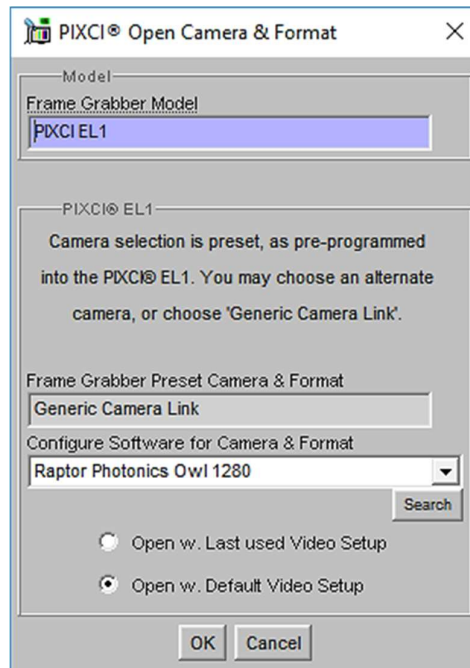

Figure 2: Camera Selection
4. Using the dropdown menu scroll down and select Raptor Photonics OWL 1280 from the list (Figure 2). Selecting OK when done.